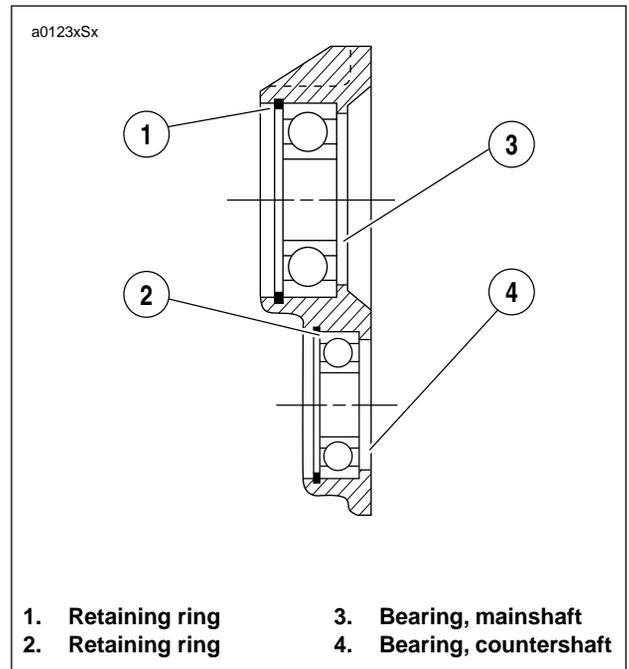

Figure 6-79. Ball Bearing Assembly
5. See Figure 6-79. If bearing replacement is required, remove retaining rings (1, 2) using snap ring pliers (Snap-On Part No. PR-36). Press out bearings (3, 4) from the inside of the crankcase.